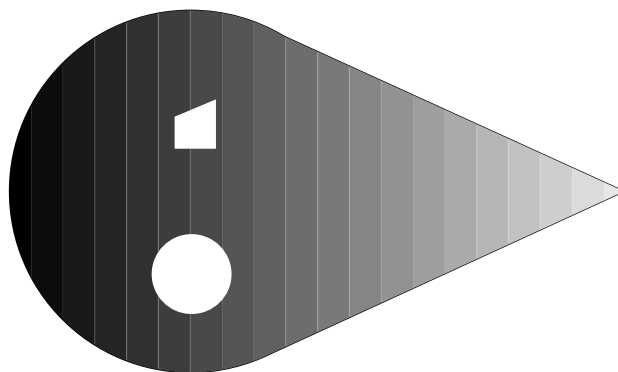

Figure 8-6. Sample Object
**Figure 8-6** shows the object that is being placed in the field of view. This is the sample object that was introduced in **Chapter 1**.